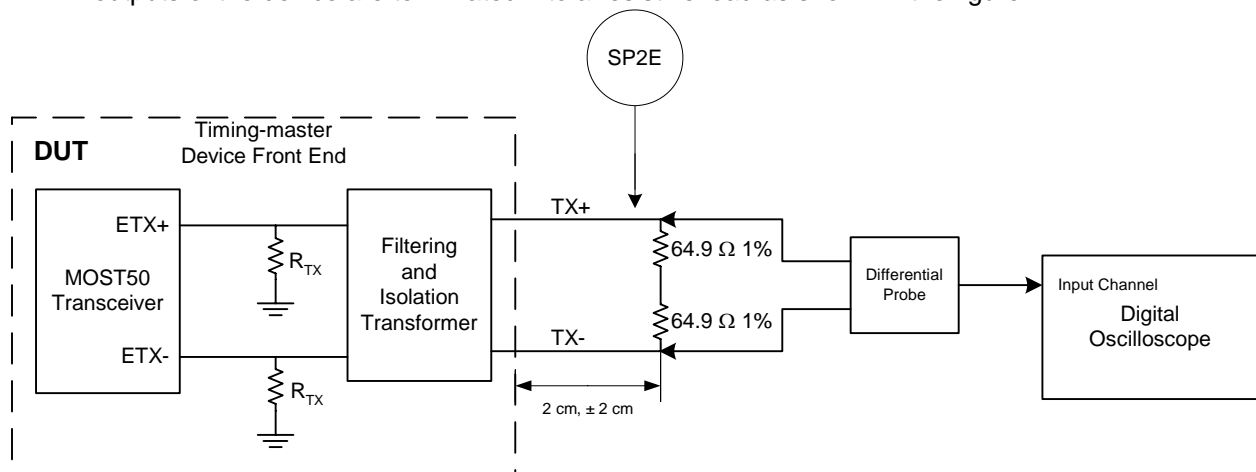
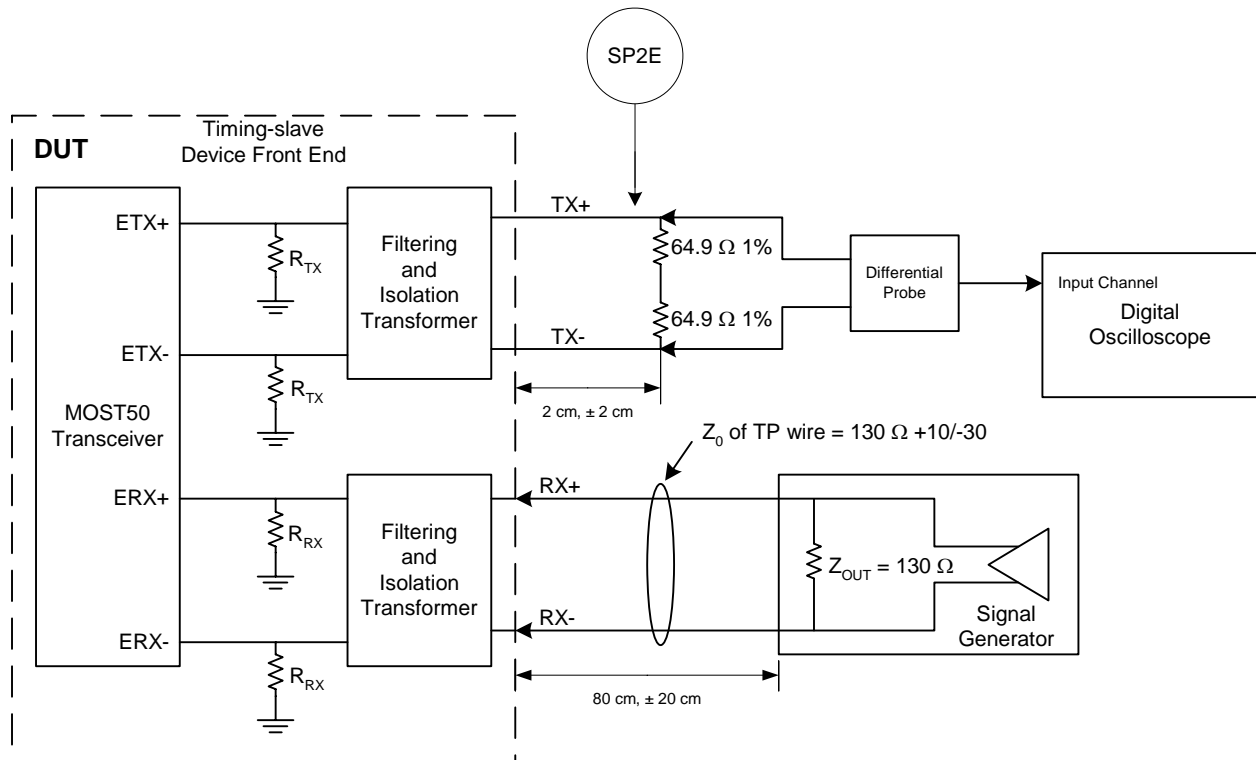

Figure 3-3: Device Transferred Jitter Test Setup (Timing-master)
Figure 3-4: Device Transferred Jitter Test Setup (Timing-slave mode)
- Use the setup shown in Figure 3-3 when testing a DUT in Timing-master. The TX+ and TX- outputs of the device are terminated into a resistive load as shown in the figure.
- Use the setup shown in Figure 3-4 when testing a DUT in Timing-slave mode.
- Configure the system as shown in either Figure 3-3 or Figure 3-4, depending upon the type of DUT submitted for testing.